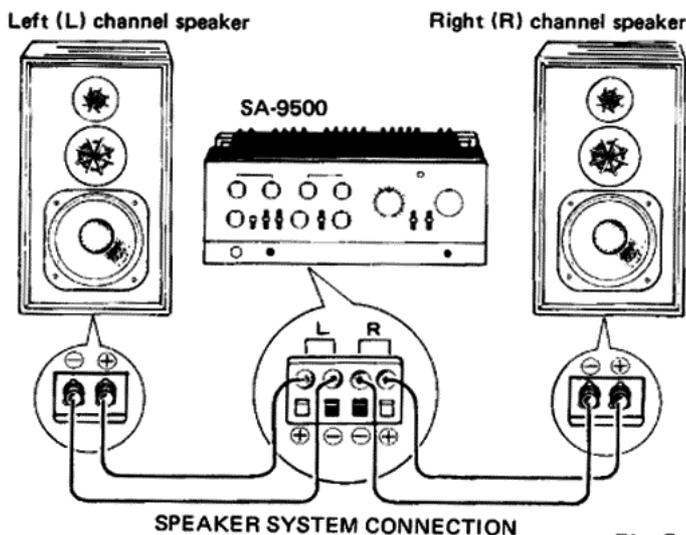

Fig. 5
- As shown in Fig. 5, connect the right channel (as viewed from the front) speaker to the R terminals, and the left channel speaker to the L terminals.